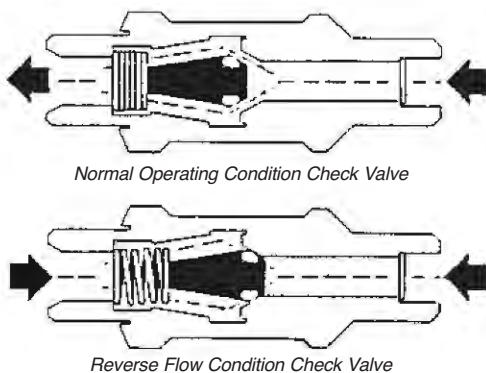

Figure 11
Cutting torches should be equipped with reverse flow check valves and flame arrestors to prevent flashback and explosion (Figure 11). These valves must be installed according to the manufacturer's instructions.
- Use backflow check valves and flame arrestors according to the manufacturer's instructions (Figure 11).